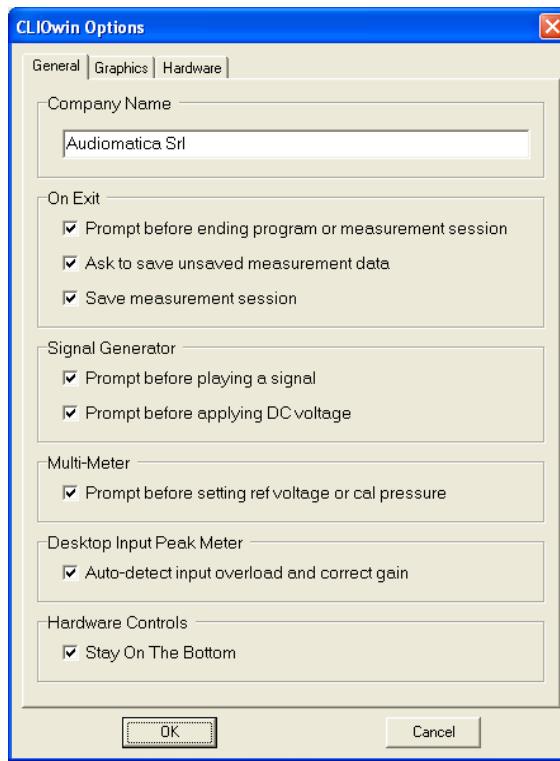

Fig.5.7 Options General dialog
Opens the CLIOwin Options dialog box (Fig.5.7)
- Opening this tab (Fig. 5.7) you can define the following: